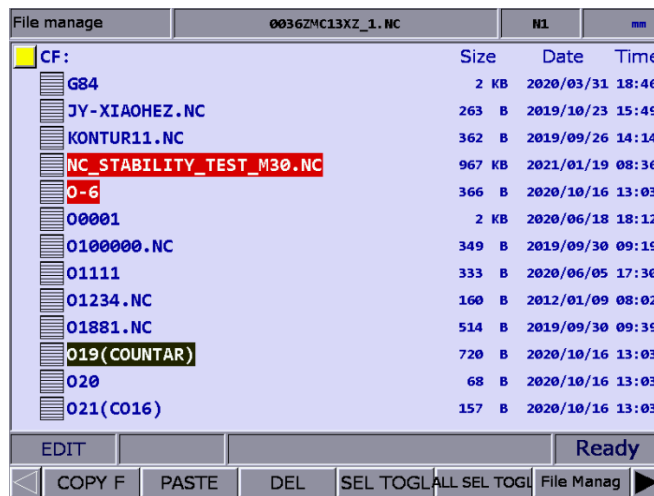

Figure 7.6.1
- (1) Set the system to EDIT mode.
- (2) Press **PRG** to switch to the PRG screen.
- (3) Enter the directory where you want to select the files.
- (4) In the File manage screen, press **↑** and **↓** or **PAGE UP** and **PAGE DN** to move the cursor to the file to be selected. To select a file, press **SEL TOGL** (as shown in Figure 7.6.1). To cancel the selection, press **CANCEL**. To select all files, press **ALL SEL TOGL**. To cancel the selection of all files, press **CANCEL**.